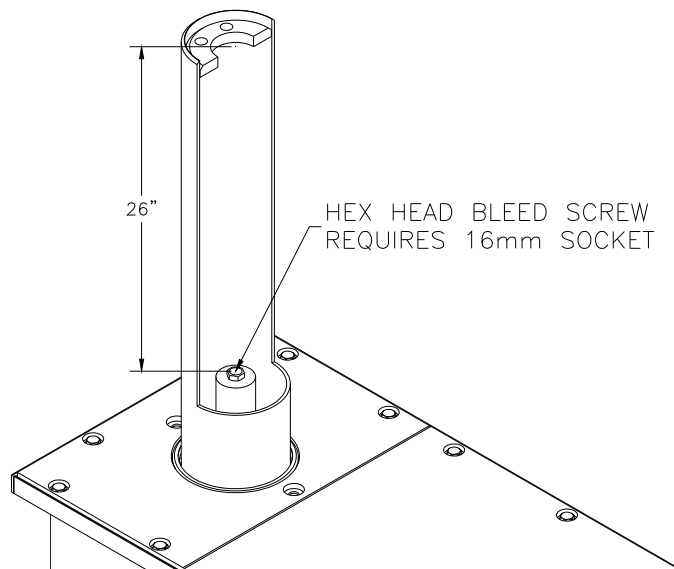

Fig. 9
21. Finish Energize the power unit to run the cylinder up about 3 feet. Loosen the bleed screw at the top of each cylinder, and allow the trapped air to escape. Bleed both cylinders until clear oil is seen. Refer to **Fig. 9**. Raise the lift to full stroke and continue to run the power unit for another 10 seconds to check for hydraulic leaks.